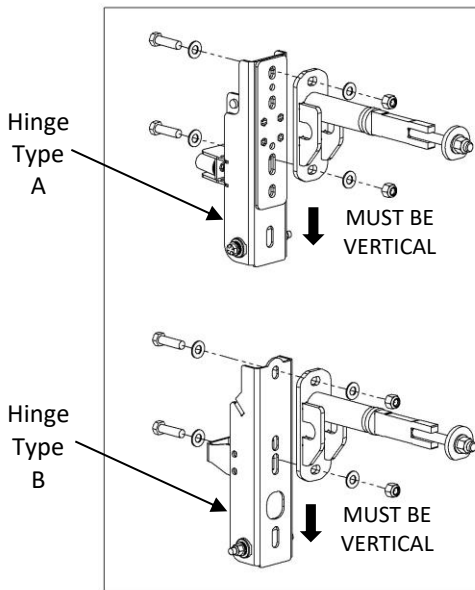

Figure 2a: For Freightliner Cascadia Classic Narrow Rad
1. Insert Submounts into truck's tow receiver. **See Figure 2a, 2b and 2c for the specific orientation of the Submounts based on the make and model of your truck and type of hinge (A or B) of Grille Guard.**